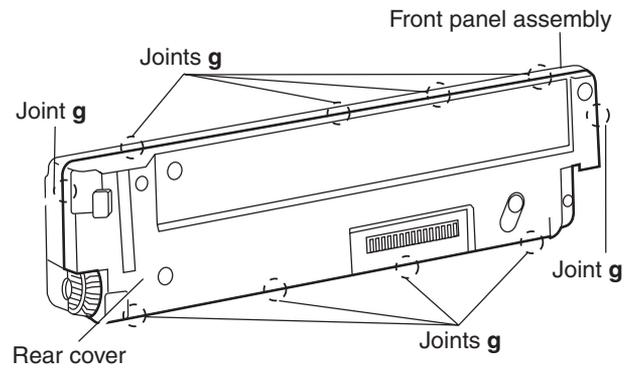

Fig.11
- (2) Release the ten joints **g**, the front panel assembly and rear cover become separate. (See Fig.11.)